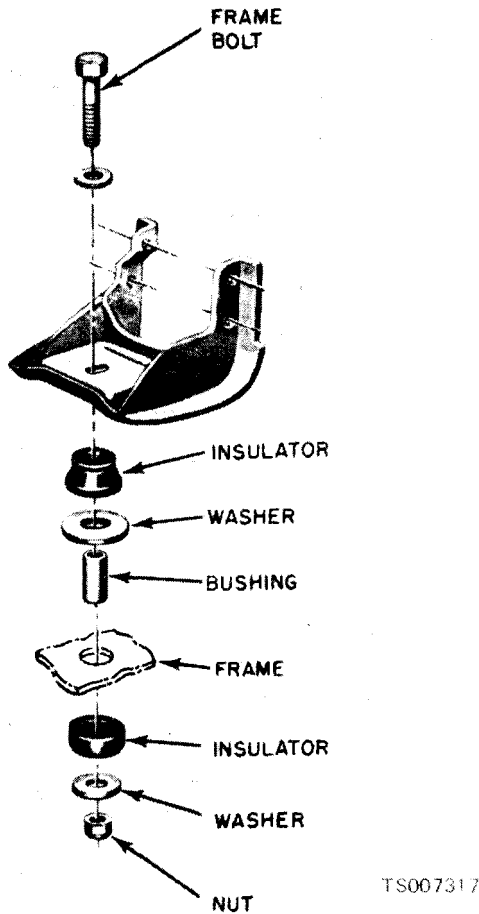

Figure 2-2. Engine Front Support.
(10) Disconnect the engine wiring harness at the ignition coil, coolant temperature sending unit, oil pressure sending unit, and vacuum switch.
(11) Loosen and remove the alternator mounting bolts, and position alternator (with wiring attached) out of the way of engine removal.
(12) Raise the vehicle, using lifting eyes on the frame, and block securely under the frame for support.
(13) Remove the starter (see TM 10-3930-633-12) and the automatic transmission filler tube bracket.
(14) From underneath the vehicle, remove the converter housing access cover.
(15) Remove the nuts which attach the converter to the engine flywheel. Use of a wrench on the crankshaft pulley attaching bolt will enable the crankshaft to be turned until all nuts are removed.
(16) Block or brace the converter so that it will remain in the housing as the engine is removed.
(17) Refer to figure 2-2 and remove the front support frame bolt and nut. When engine is removed, insulators and washers may be removed.
(1) Place a new gasket on the muffler inlet pipe.
(2) Lower the engine carefully into place on the chassis. Make sure that front mount parts are arranged as shown in figure 2-2.
(3) Observe the engine to transmission converter housing flange and make sure that the converter pilot enters the crankshaft and that the dowel pins in the engine block engage the converter housing holes properly.
(4) Install engine to converter housing bolts.